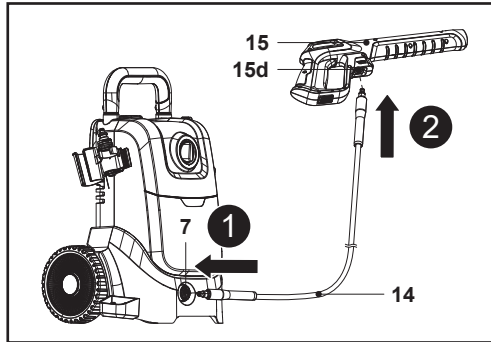

Fig. 5
1. Push one end of the pressure hose (14) into the hose connector (7) on the machine until the end with a click (Fig. 5, step 1).
3. Push the other end of the pressure hose (14) into the hose connector (15d) on the spray gun (15) until the end with a click (Fig. 5, step 2).